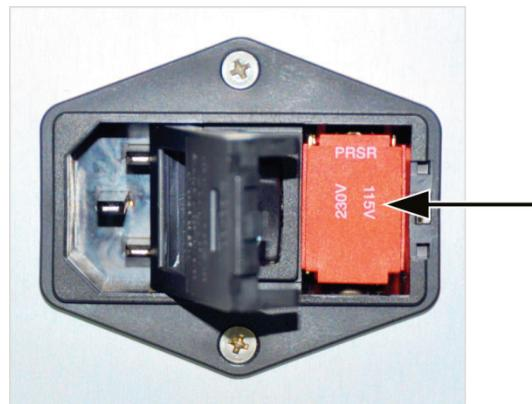

Fig. 10 Adjusting the operating voltage
3. Rotate it by 180° and insert it again. The marking indicating the desired operating voltage must be pointing to the right (arrow in Fig. 10).